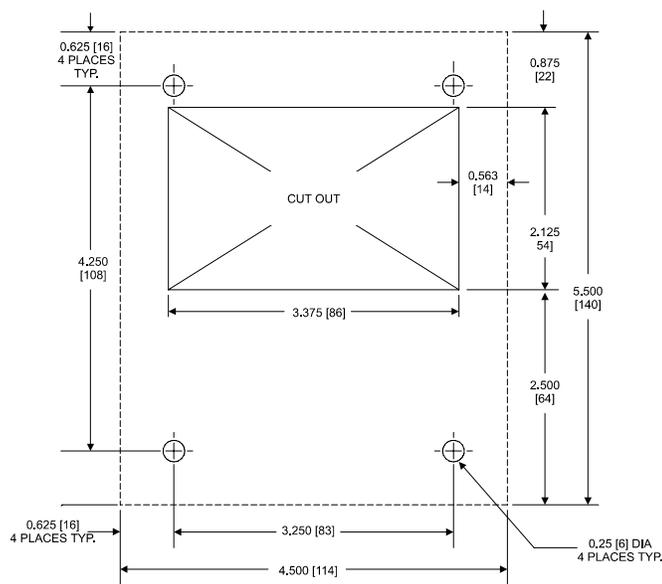

FIGURE 1. PANEL CUTOUT DIMENSIONS
1. Cut a rectangular hole in the panel 2.13 inches (54 mm) high, and 3.38 inches (86 mm) wide, as shown in Figure 1.
2. Drill four 0.188-in. diameter holes in the mounting panel as shown in Figure 1.